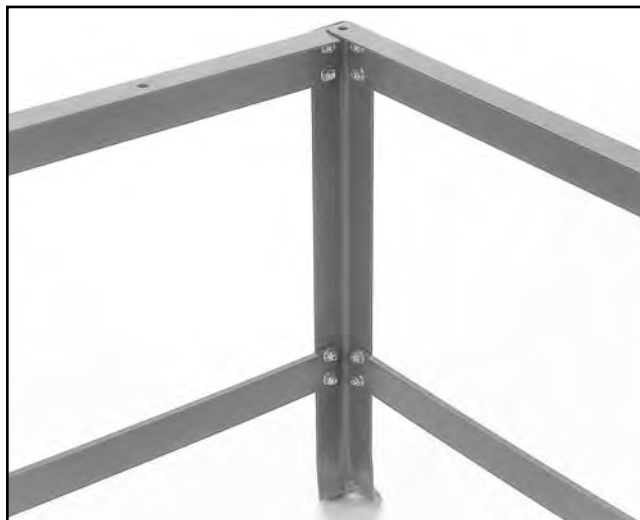

Figure 7. Upper and lower braces connected to leg.
1. Connect the lower and upper braces to the legs of the stand with the carriage bolts, hex nuts and flat washers. See **Figure 7**.